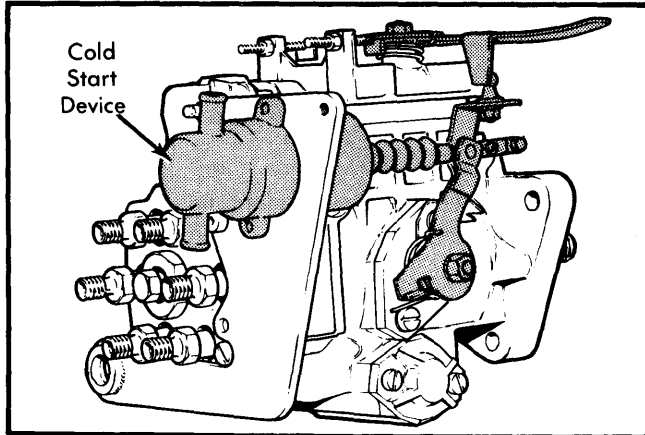

Fig. 15 Testing Cold Start Device (Volvo Shown)
1) Cold start malfunction usually is indicated by hard starting of a cold engine, failure of engine to start below 14°F (–10°C), or blue-white exhaust smoke. See Fig. 15. Check idle speed with engine cold and at normal operating temperature.